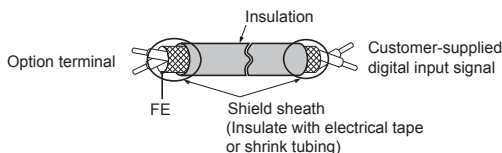
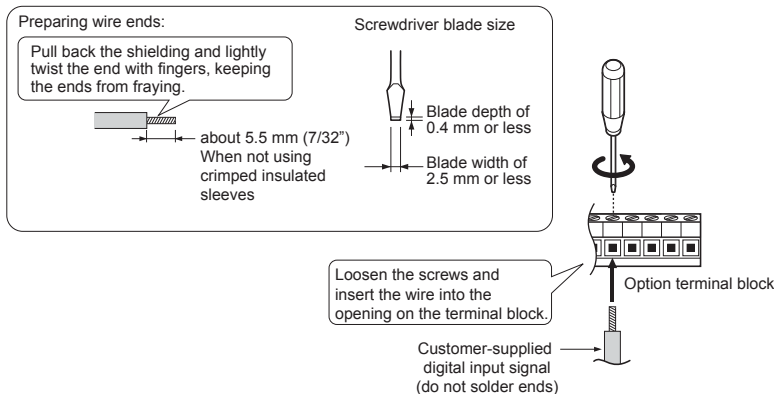

Figure 6 Preparing Ends of Shielded Cable
Figure 7 Preparing and Connecting Cable Wiring
4. Prepare and connect the wire ends as shown in Figure 6 and Figure 7. Refer to Wire Gauges and Tightening Torques on page 21 to confirm that the proper tightening torque is applied to each terminal. Take particular precaution to ensure that each wire is properly connected and wire insulation is not accidentally pinched into electrical terminals.